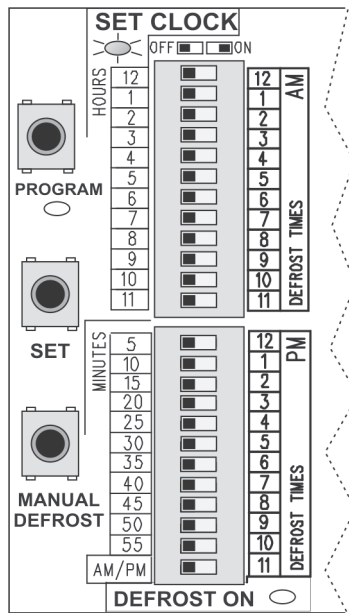

Fig. 12
When the Freezer is connected to the AC electrical power supply, the SET CLOCK light on the Defrost Timer (Fig. 12) blinks rapidly to indicate that the Defrost Timer is in normal Operation Mode.
The Defrost Time Clock is set at the factory to the current time-of-day for Central Standard Time. The Defrost Duration is preset at the factory to run for 25 minutes. Also, the Defrost Schedule is preset at the factory to start a defrost cycle four times each day, at 2 AM, 8 AM, 2 PM and 8 PM. The factory preset defrost schedule is active during normal Operation Mode if all 24 switches are OFF. Switches are OFF when tabs are positioned to the left (Fig. 12).
Before programming, if the initial switch settings are not all off (Fig. 12), make a record of the current switch settings on a piece of paper; this indicates the current defrost schedule. Then slide all 24 switches to the left or OFF position (Fig. 12).
- Begin with all switches OFF (Fig. 12).